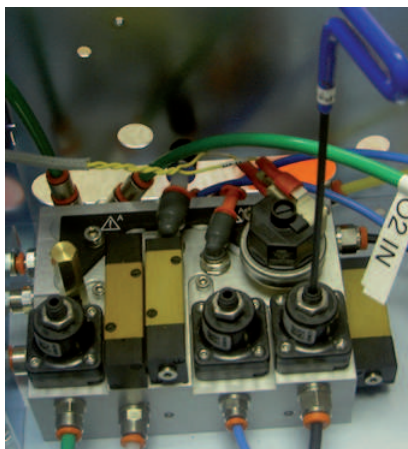

Figure 69 - Adjust the Regulator Set Screw
14. Set the AIR secondary regulator to 30 PSI by adjusting the set screw using a 3mm Allen key (Figure 69). Secure the set screw with the nut once the pressure is set.